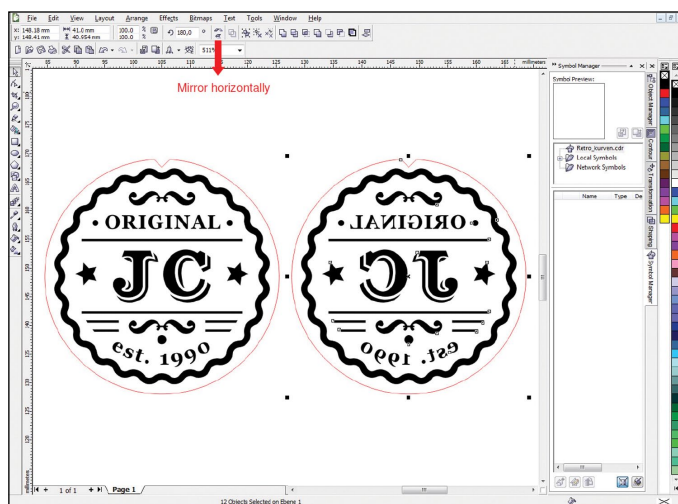

Figure 5: Copy and mirror
- With the copied version selected, click “Mirror horizontally” on the toolbar (see Figure 5).